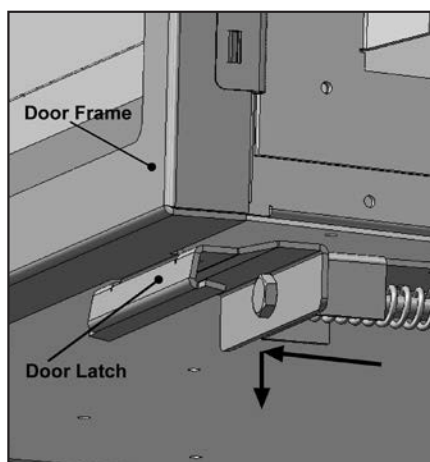

Figure 7: Door Latch Locations.
- 3) Pull the Door Frame at the bottom forward about 2" (5cm), then lift the Door Frame upwards to clear the Upper Door Hooks. Refer to Figures 7 & 8.